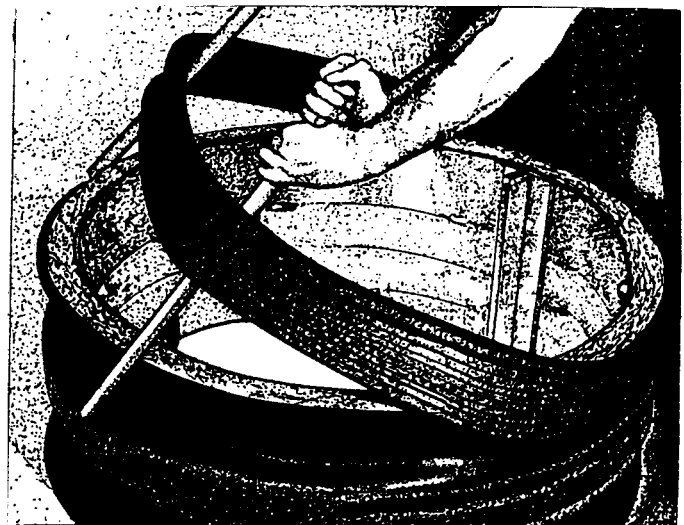

FIGURE 4
3. Refer to FIGURE 4. Carefully stretch the *end element* over the joint tester (by hand or with the aid of pry bars) and into the top channel section of the frame. Corn starch, silicone, or soapy water may be used if desired.